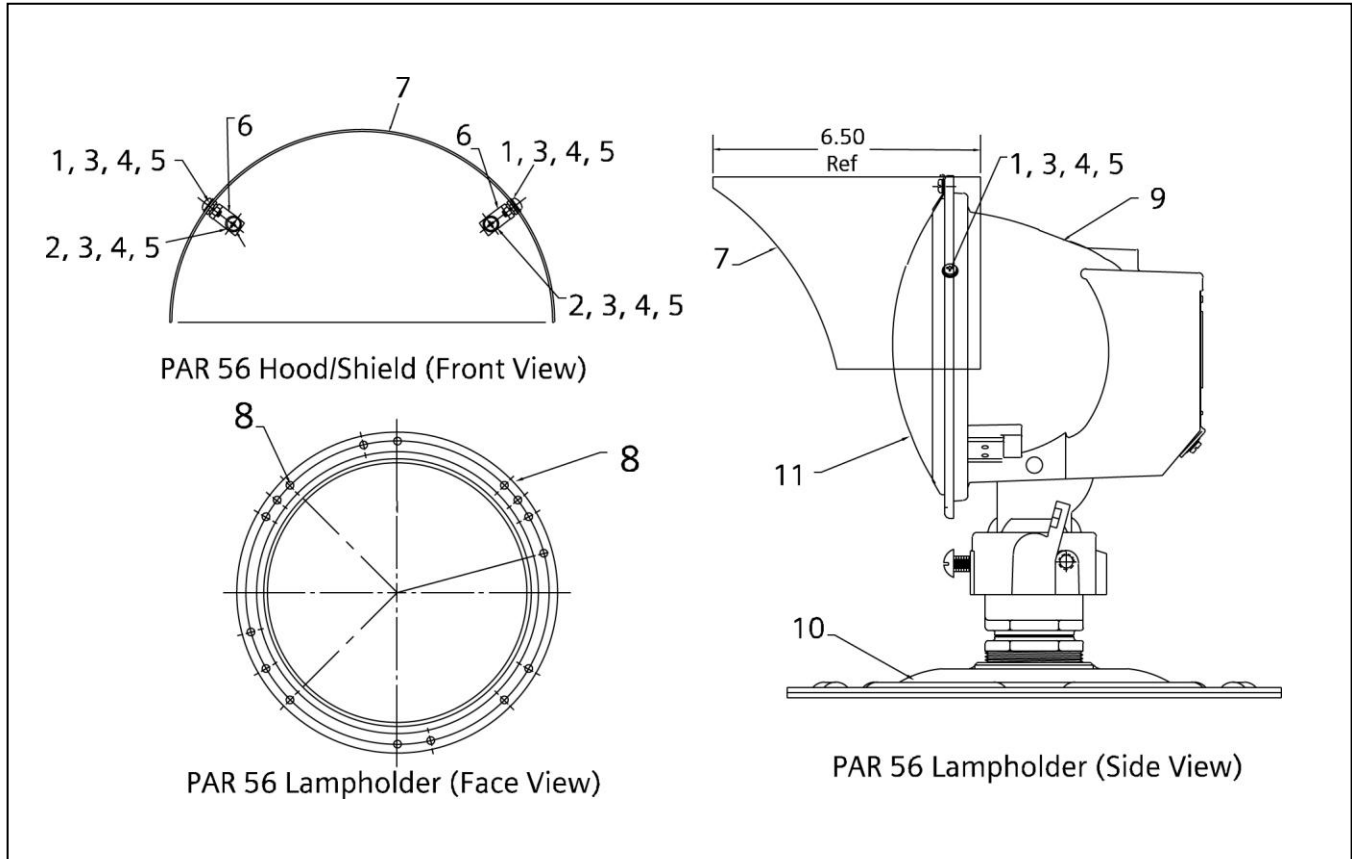

Figure 2. Installing Hood/Shield on PAR 56 Head
1. See Figure 2. Use the 8-32 x 3/8 pan head Phillips screw with #8 flat washer and #8 split washer (1, 3, 4, 5) to attach the hood/shield clip (6) to the lampholder face.
NOTE: Figure 2 shows a PAR 56 mounted on a base plate at ground level. The PAR 56 can also be mounted on a tower.
NOTE: The light base plate (see Figure 2, Item 10) must be ordered as a separate line item.